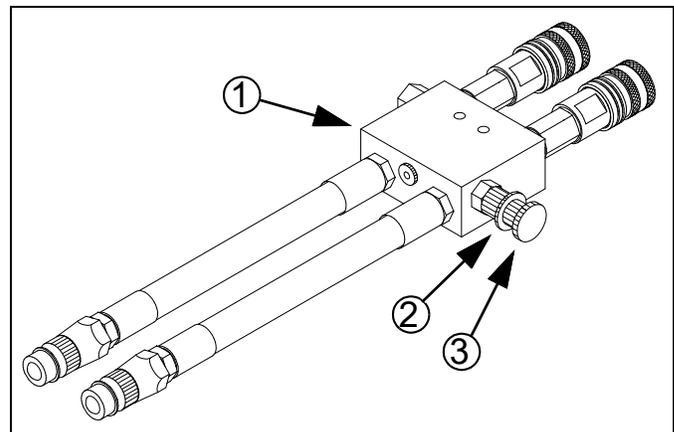
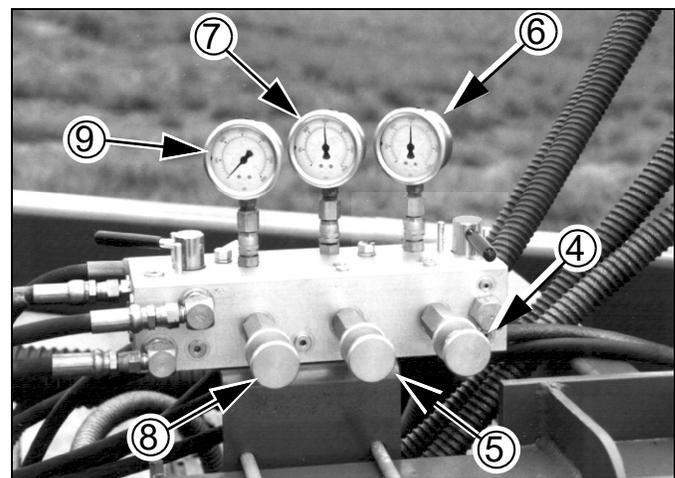

Figure 9
Figure 11
### Refer to Figure 9
**Refer to Figure 11 and Figure 9**
6. Adjust wing and center down-pressure-control valves ④, ⑤ on implement so gauges ⑥, ⑦ read 1500 psi.
*Do not adjust weight-transfer valve ⑧ at this time. To avoid implement damage, never set weight-transfer valve above 1000 psi ⑨.*
7. While watching opener gauges, slowly adjust bypass valve knob ③ just until needles on gauges ⑥, ⑦ move down from 1500 psi. Lock bypass valve ring ② at this setting.
8. Adjust pressure-control valves ④, ⑤ to desired opener down pressure. See “**Sub-Frame Down-Force**” on page 39.